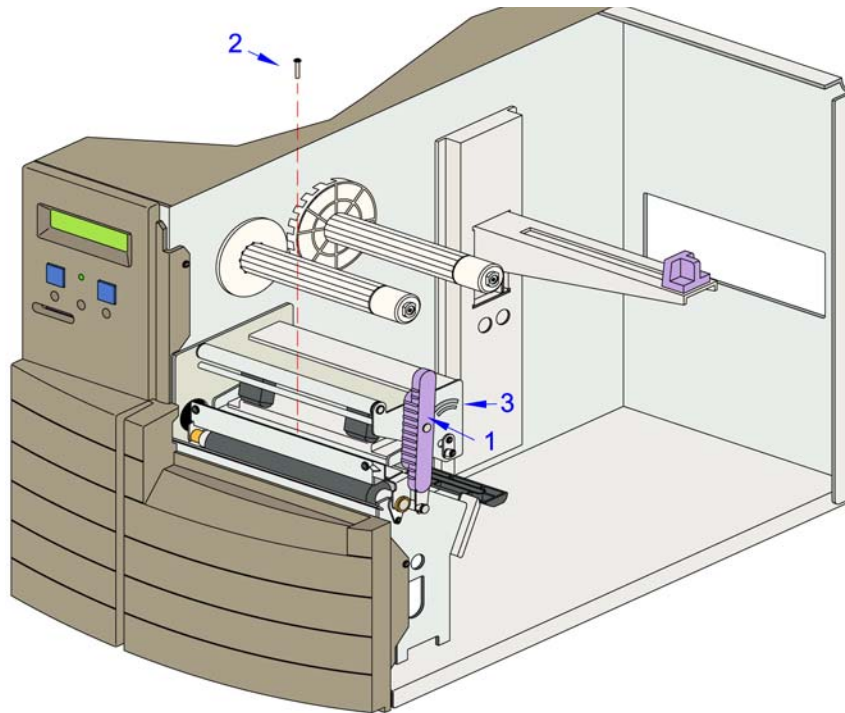

Figure 6-1a, Print Head Replacement
2. Open the right housing cover and latch print head release lever (1, Figure 6-1a) as necessary.
7. Insert replacement print head (4) into print assembly (3) and latch lever (1, Figure 6-1a).